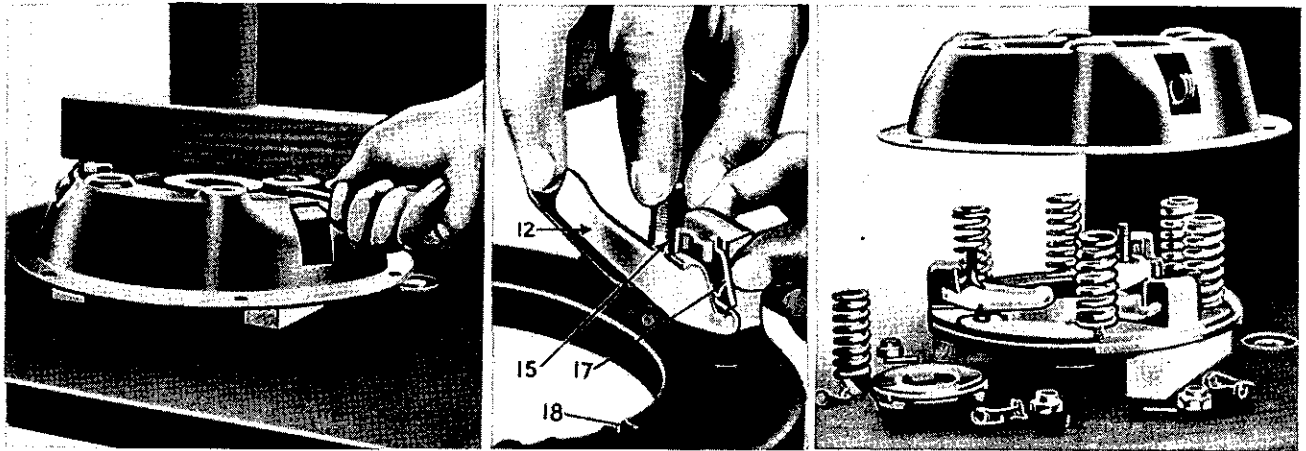

Fig. 2
- Fig. 2). Move the strut upwards into the slots in the pressure plate lug and over the ridge on the short end of the lever and drop it into the groove formed in the latter. Fit the remaining release levers in a similar manner.